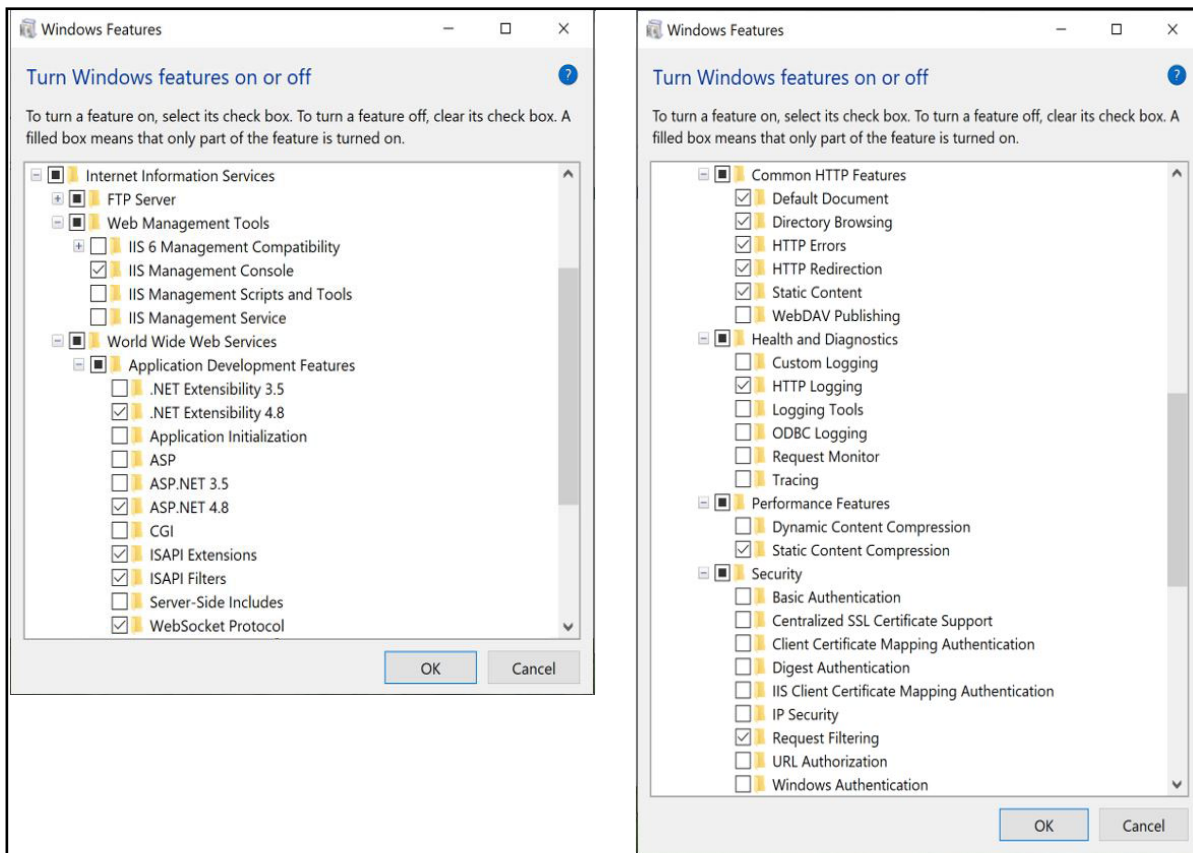

Figure 2-6. Windows Features Configured
- B.1 Windows Features window displays (see Figure 2-6 on page 12).
B.2 Expand **Internet Information Services** tree and enable check boxes as displayed in Figure 2-6.